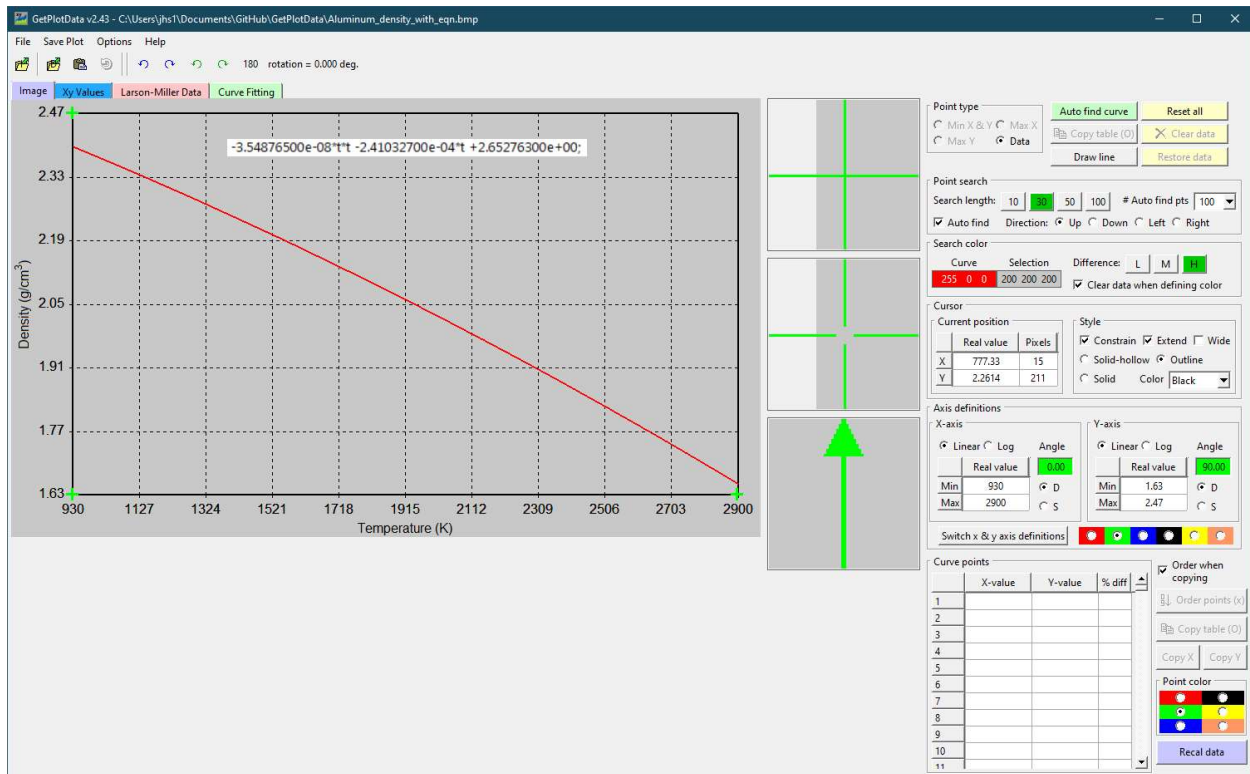

Figure 3. Define colors and axis.
Step 3: Define colors and the x and y axes. (Figure 3) This program works by scanning the image looking for matching colors.